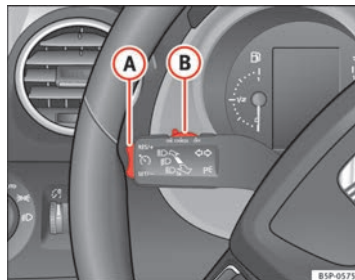

Fig. 150 Turn signal and main beam headlight lever: switch and rocker switch for the cruise control
- Press the lower part **SET/-** of the rocker switch ⇒ fig. 150 **A** once briefly when you have reached the speed you wish to set.